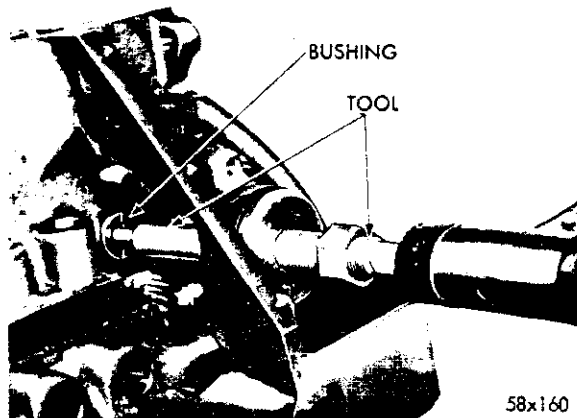

Fig. 35—Install the Distributor Drive Shaft Bushing Using Tool C-3053
(1) Slide a new bushing over the burnishing end of Tool C-3053 and insert the tool bushing into the bore, as shown in Figure 35.
(2) Drive the bushing and tool into position, using a soft hammer.